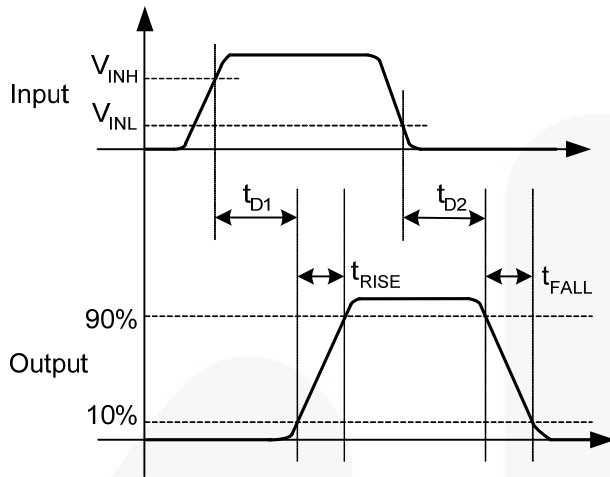
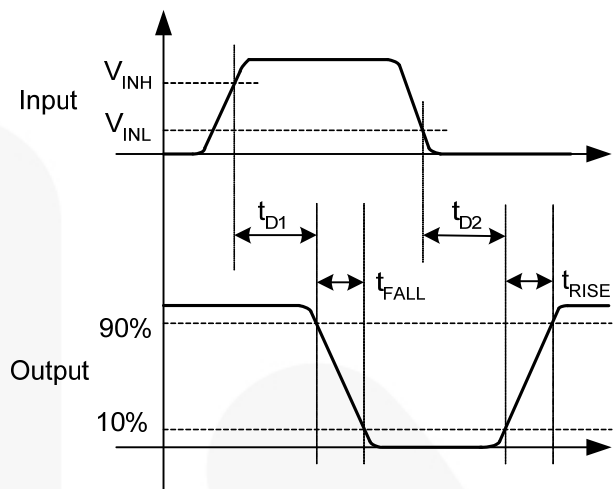

Figure 8. Non-Inverting (EN HIGH or Floating)
Figure 9. Inverting (EN HIGH or Floating)
13. See *Timing Diagrams of Figure 8 and Figure 9*.